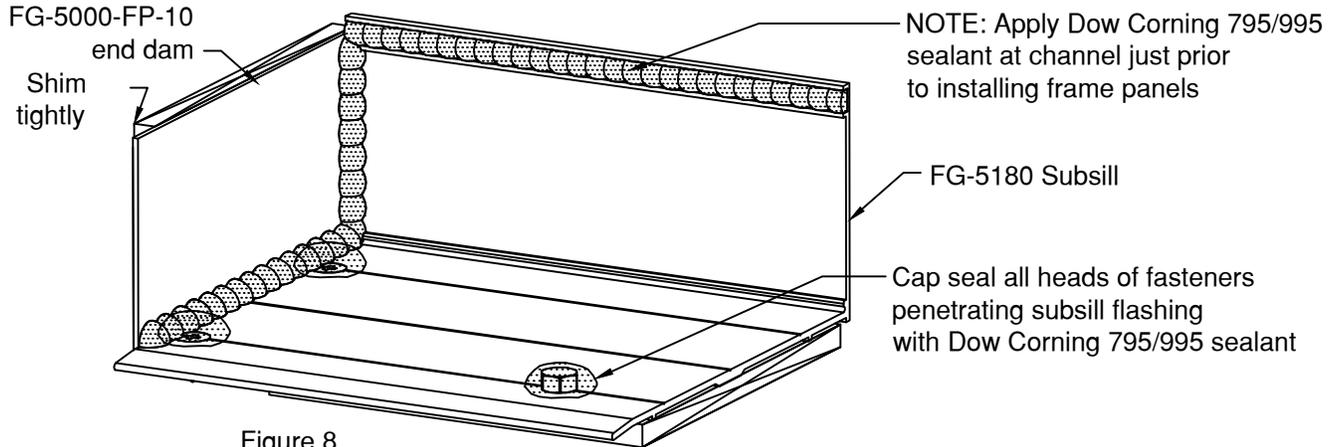

Figure 8
See Figures 8 and 9 on Page 13 for sealant to be applied during installation.
3.1.2 Wedge shims tightly between end dams and jamb substrate at each end prior to installing frame panels. These shims prevent the end dams from being dislodged while frame panels are being installed. Completely seal end dams as shown See Figure 8.